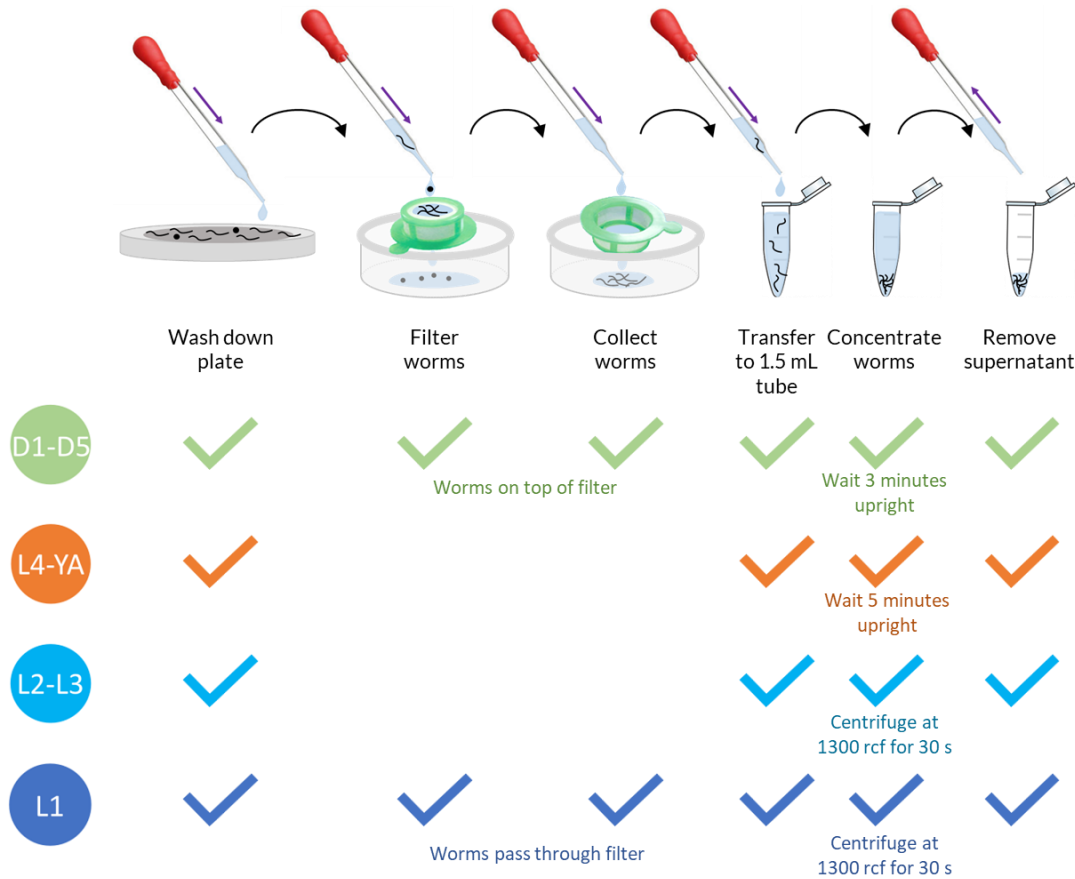

Figure 11: Schematic of plate to tube transfer steps for different worm stages
- 3.4 While performing steps 3.5 through 3.11, refer to Figure 11, which outlines the process of transferring worms from the growth plate to the input tubing.
- a. Refer to Figure 11 for the correct orientation of the worm filter. Flush the buffer containing worms through the bottom of the strainer worm filter. The eggs and particles will pass through the filter while the adult worms will remain on the top side of the filter mesh.